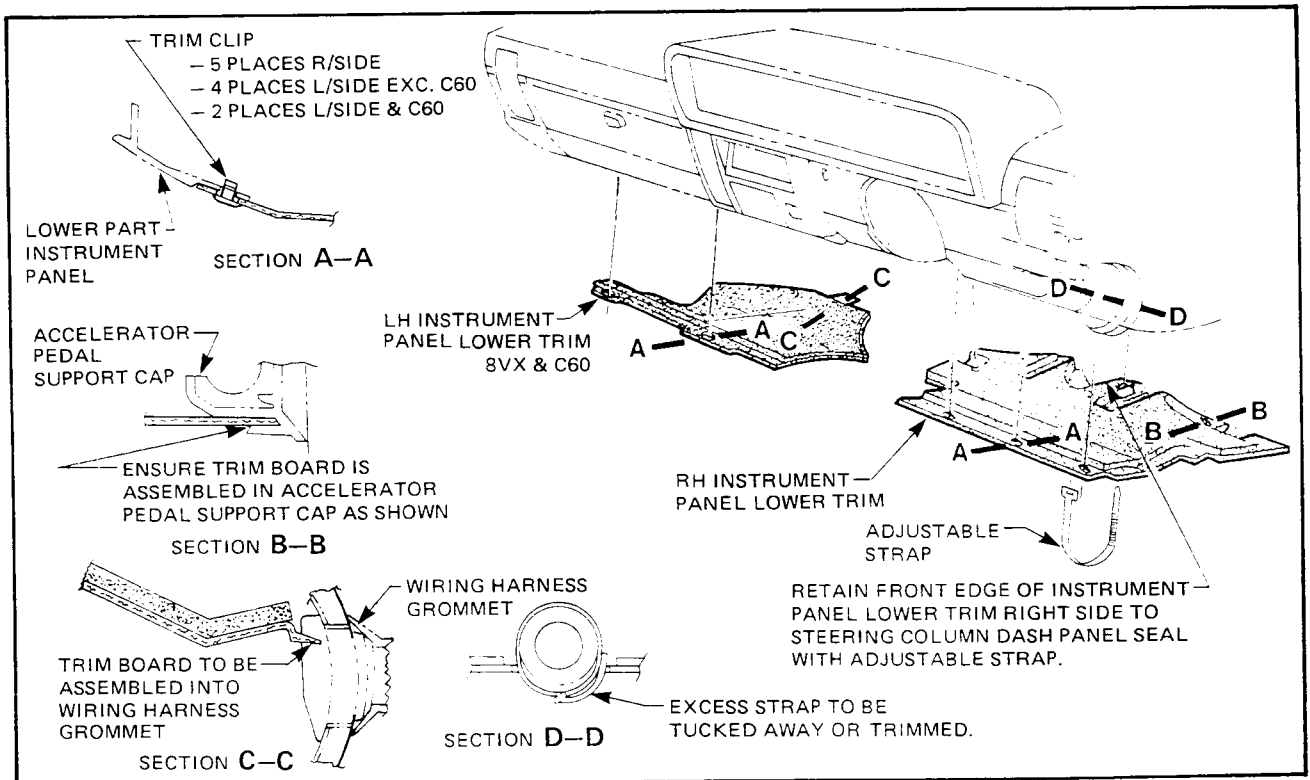

Figure 1A-8
1. From under instrument panel and using a fabricated trim clip removal tool (refer Special Tool Section) located directly under head of trim clip, carefully prise clips from attaching holes in instrument panel lower (refer Section A-A, Fig. 1A-8) removing trim.
NOTE: Removal of right hand lower trim necessitates disengagement of adjustable strap which partially secures trim to steering column (refer Section D-D, Fig. 1A-8).
Reverse removal operations ensuring that leading edge of left hand trim is correctly located beneath the dash panel bracket and into wiring harness grommet (refer Section C-C, Fig. 1A-8) and that the leading edge of the right hand trim is located in the accelerator pedal support cap, as illustrated in Section B-B, Fig. 1A-8.